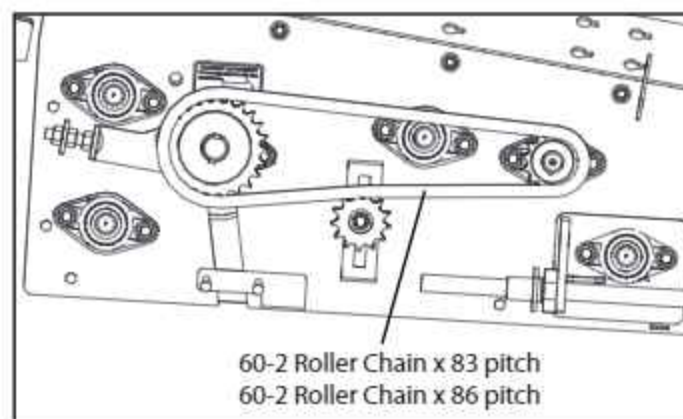

FIG. 3-63. S-Drive Chain Installation
35. Loosen the Idler sprocket nut and install the roller chain. Make sure the lower span of the chain goes over the idler as shown in Fig. 3-63. Adjust the position of the idler to tighten the chain and tighten the idler nut.